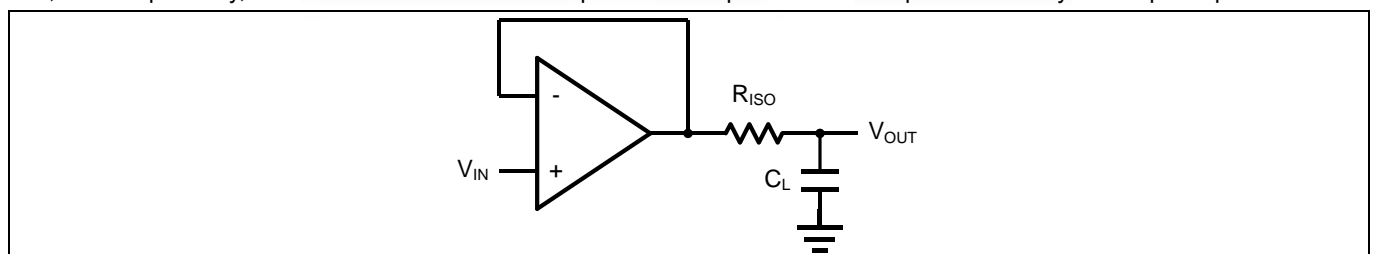
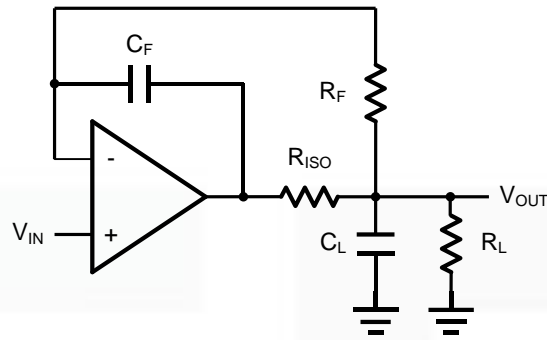

Figure 2 Indirectly Driving a Capacitive Load Using Isolation Resistor
Figure 3. Indirectly Driving a Capacitive Load with DC Accuracy
The GS601X family is optimized for bandwidth and speed, not for driving capacitive loads. Output capacitance will create a pole in the amplifier's feedback path, leading to excessive peaking and potential oscillation. If dealing with load capacitance is a requirement of the application, the two strategies to consider are (1) using a small resistor in series with the amplifier's output and the load capacitance and (2) reducing the bandwidth of the amplifier's feedback loop by increasing the overall noise gain. Figure 2 shows a unity gain follower using the series resistor strategy. The resistor isolates the output from the capacitance and, more importantly, creates a zero in the feedback path that compensates for the pole created by the output capacitance.
The circuit in Figure 3 is an improvement to the one in Figure 2. R_F provides the DC accuracy by feed-forward the V_{IN} to R_L . C_F and R_{ISO} serve to counteract the loss of phase margin by feeding the high frequency component of the output signal back to the amplifier's inverting input, thereby preserving the phase margin in the overall feedback loop. Capacitive drive can be increased by increasing the value of C_F . This in turn will slow down the pulse response.